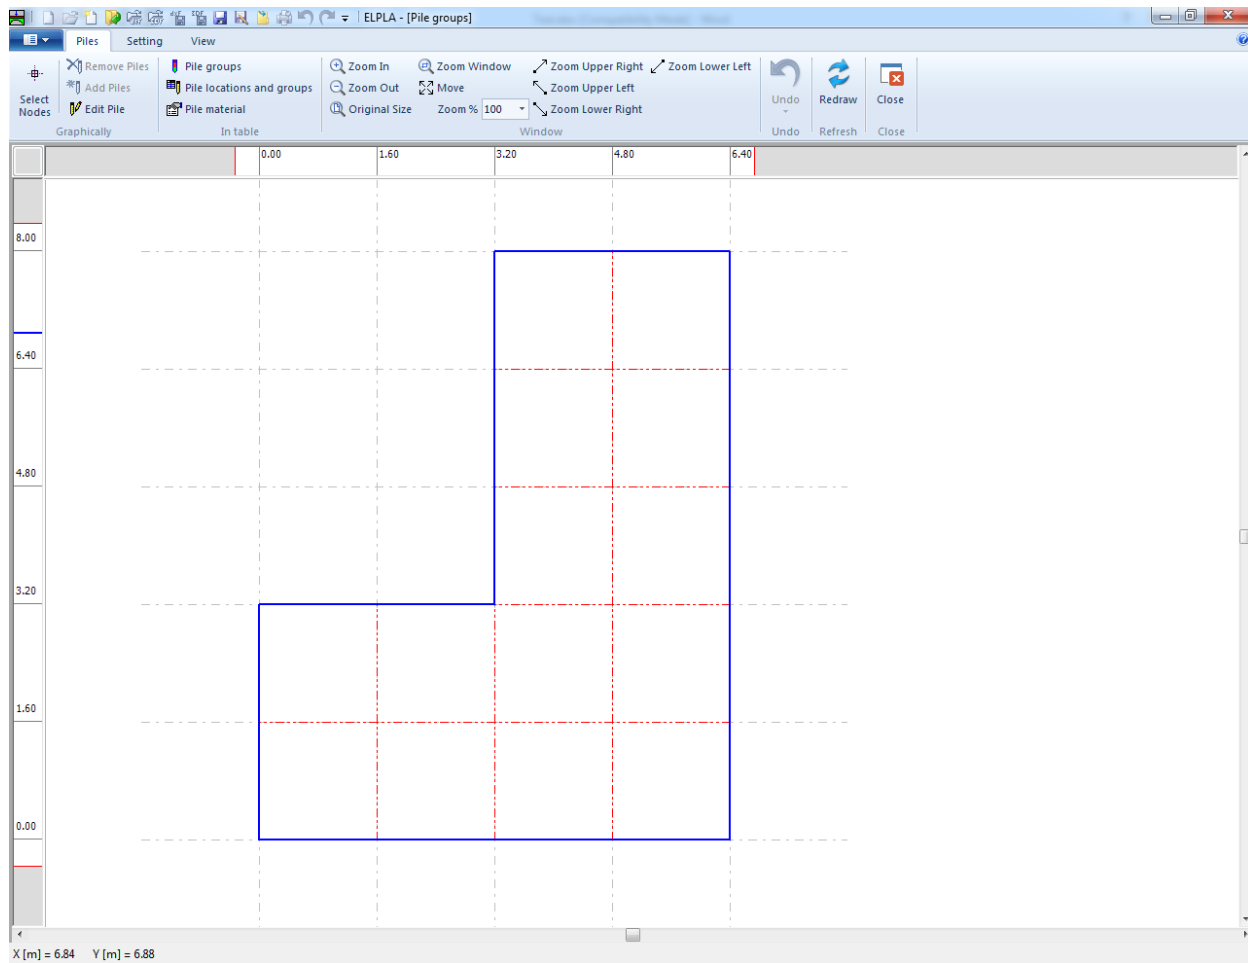
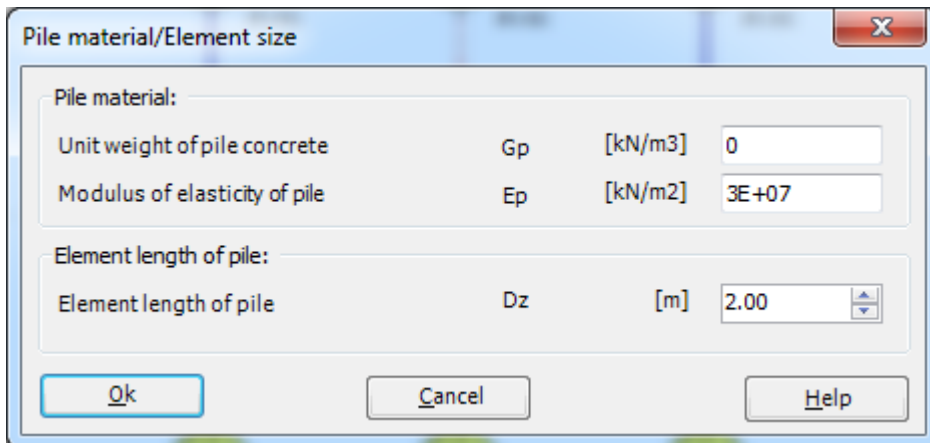

Figure 11.15 "Piles" Window
Figure 11.17 "Defining element groups" dialog box
To define piles, choose "Piles" command from "Data" Tab. The following Window in Figure 11.15 appears.
To define pile material, choose "Pile material" command from "In table" menu in Figure 11.15. When the "Pile material" command is chosen, the following dialog box in Figure 11.17 appears allowing you to define the pile material.
- Choose "Select Nodes" command from "Graphically" menu in Figure 11.15